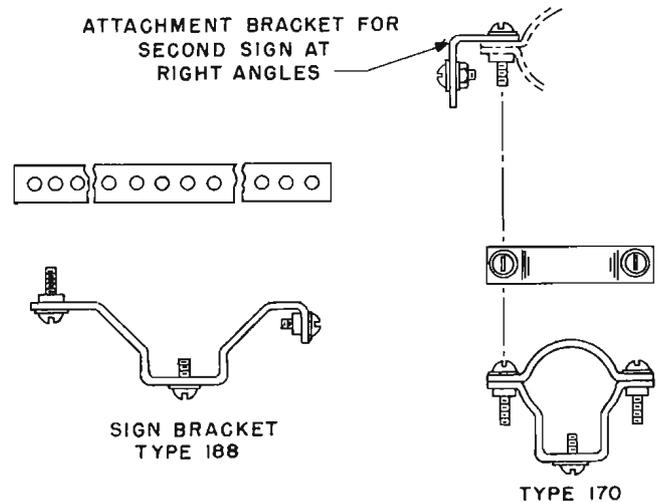

Fig. 7 — 170- and 188-Type Sign Brackets
3.07 Fig. 7 shows the type of mounting brackets for metal pole installations. Table A lists the various sizes and types of 170- and 188-type sign brackets.